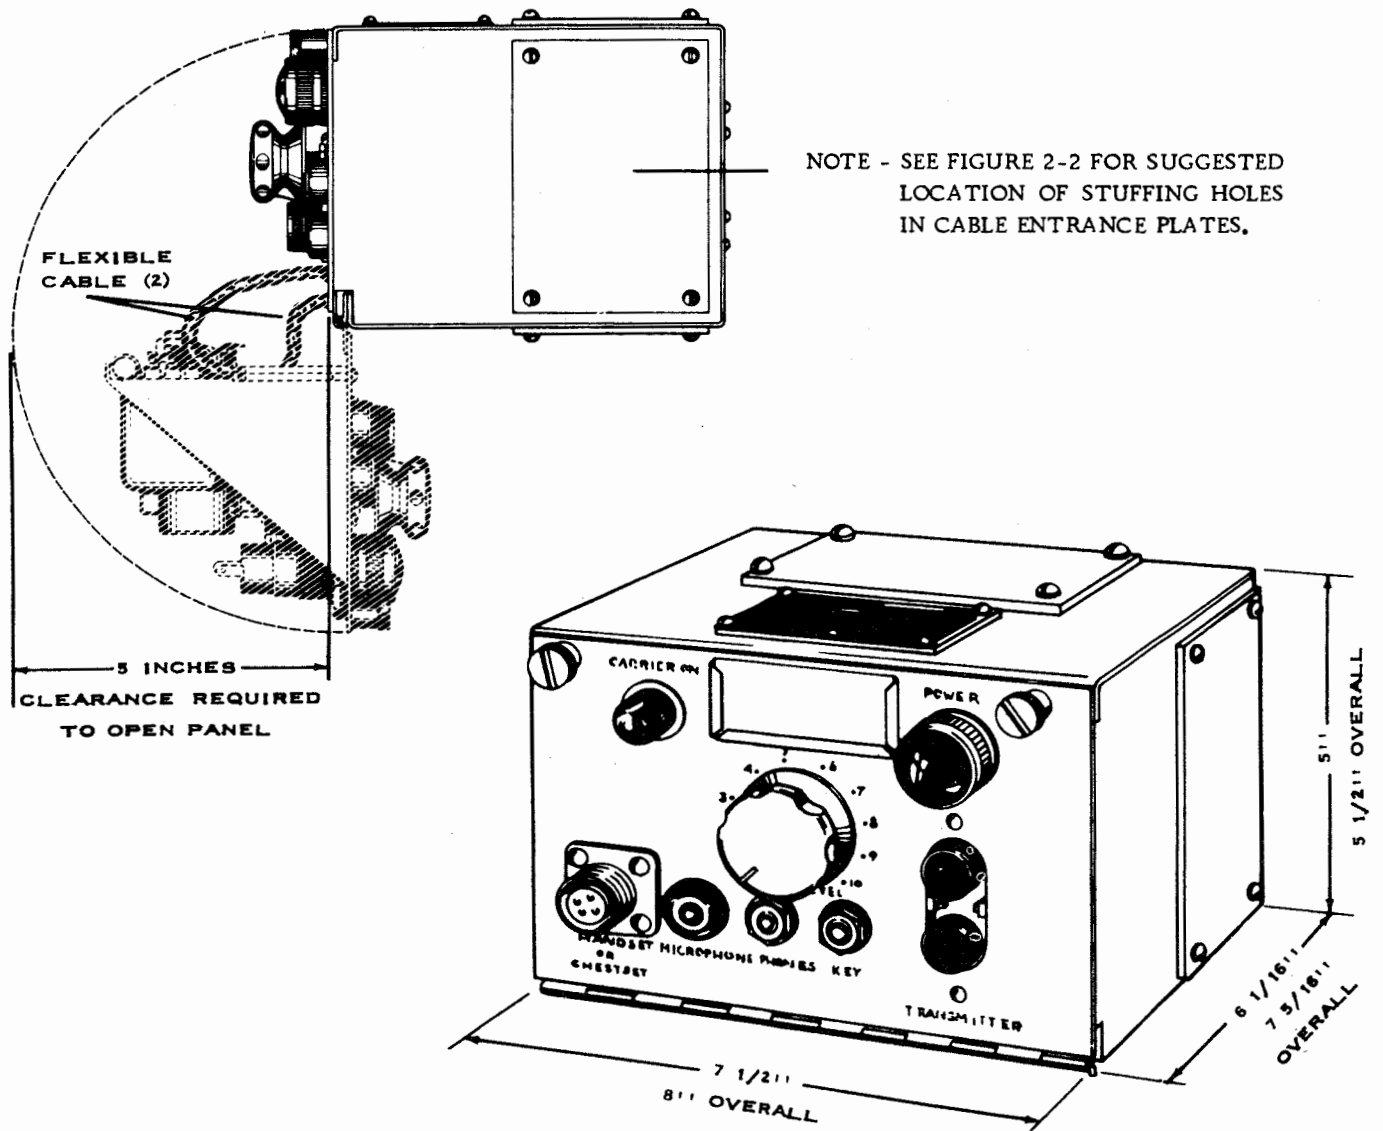

FIGURE 2-1. RADIO SET CONTROL, INSTALLATION DRAWING
b. MOUNTING. The control unit is housed in a steel case which is suitable for mounting on either a vertical or horizontal surface. There are no mounting holes or studs provided on the unit. The individual installation determines the number and location of mounting holes and the installing personnel drill them as necessary. Maintain clearance for the hinged front panel. The clearance must be sufficient to allow the panel to swing about a 180° arc to provide accessibility to the terminal boards on the back of the cabinet. See figure 2-1.